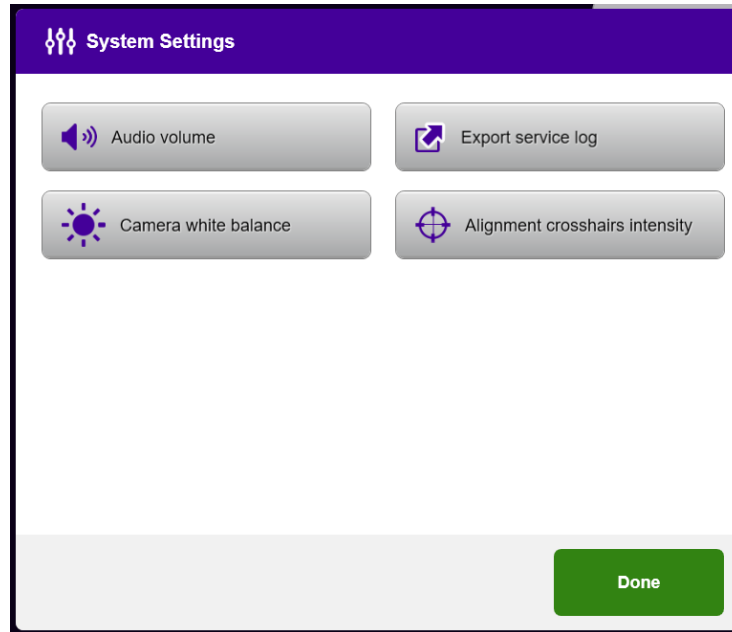

Figure 3-30. System Settings
- Select “System Setting” from the options menu to access the system settings shown in Figure 3-30.